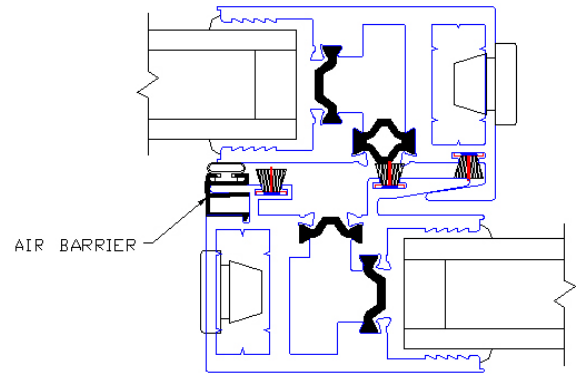

Figure 28:
2. Verify that all panels with interlocker hooks engage properly. If lead stile panel is not engaging properly with the jamb or meeting stiles (Figure 28).
4. (Optional) To reduce air infiltration, snap two 6" plastic air barriers in the back of all exterior interlockers at the top and bottom (Figure 28).